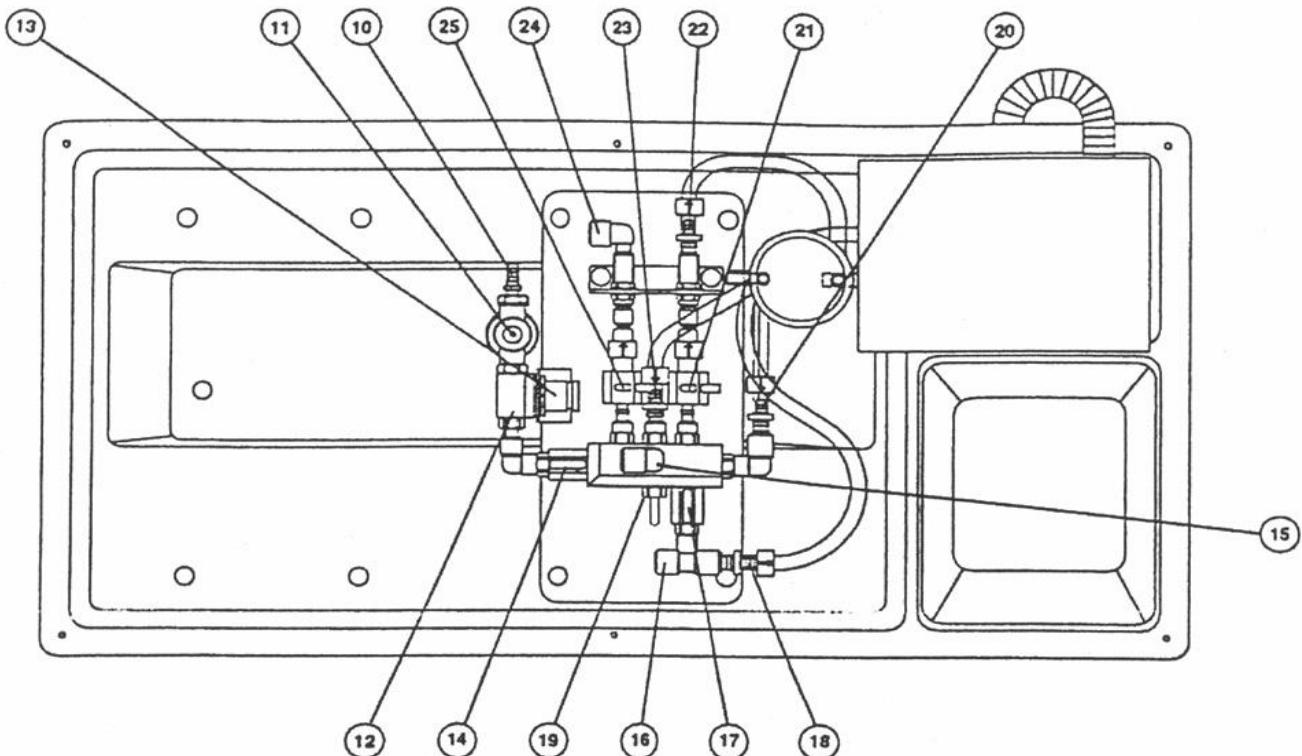

Fig. 2. Top view of Service Unit.
- e) Make sure the cold water valve is closed (14 in Fig. 2). Pull the grey knob (the pressure regulator – 13 in Fig. 2) out and turn all the way counterclockwise. Change the knob for the flow meter reading to  $F_{\text{cold}}$ . It should read zero. Turn on the cold water from the facet. Now open the cold water value fully and gradually turn the pressure regulator until water begins to flow. Continue doing so until the flow meter reads 3 liters/min. Then push in the grey knob.
- e) Set flow indicator to  $F_{cold}$  and adjust cold water control valve (14 in Fig. 2) to give 1 liter/min.
- f) Set flow indicator to  $F_{hot}$  and adjust hot water control valve (17 in Fig. 2) to give 2 liter/min.